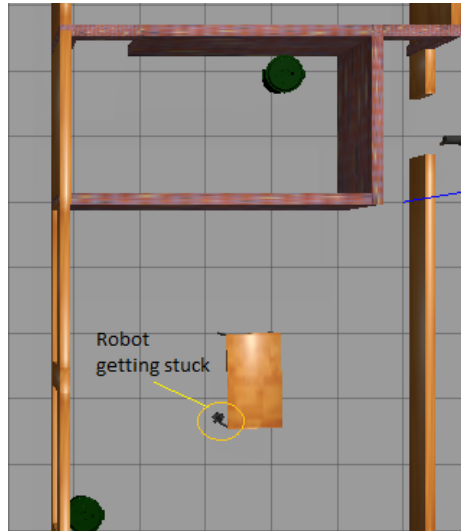

Figure 4: The wheels of the robot getting stuck
- Since we are using only a 2D laser scanner, other parts of the robot may collide. For example in Fig 4, the wheels of the robot may collide with walls and might get stuck.